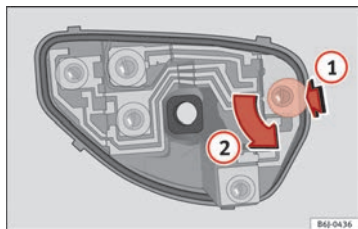

Fig. 179 Changing the tail light bulbs.
- When the bulb holder has been removed, press in the direction of the arrow (1) and at the same time, turn in the direction of the arrow (2) ⇒ Fig. 179